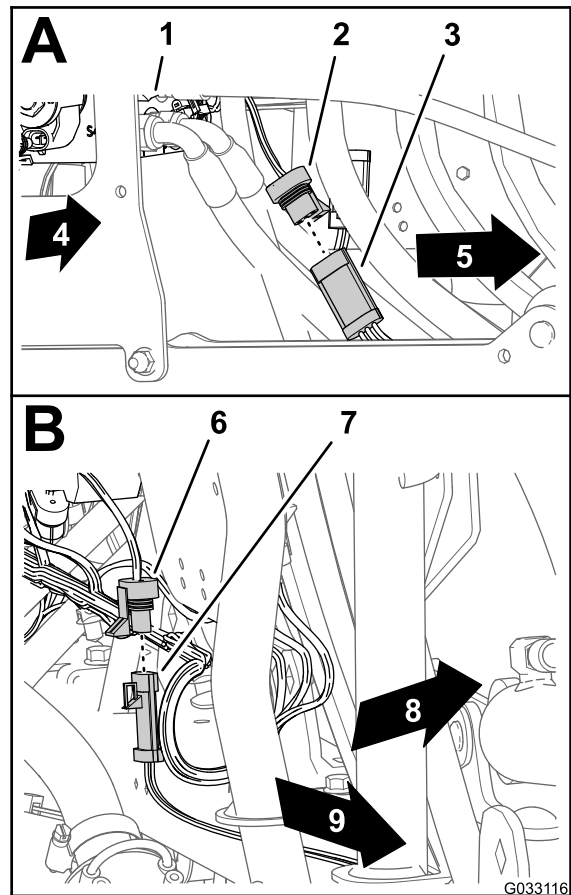

Figure 145
1. Connect the 3-socket connector of the sonic boom wire harness to the 3-pin connector of the cable for the right ultra-sonic sensor (A of Figure 145).
2. Connect the 3-socket connector of the sonic boom wire harness from the 3-pin connector of the cable for the left ultra-sonic sensor (B of Figure 145).